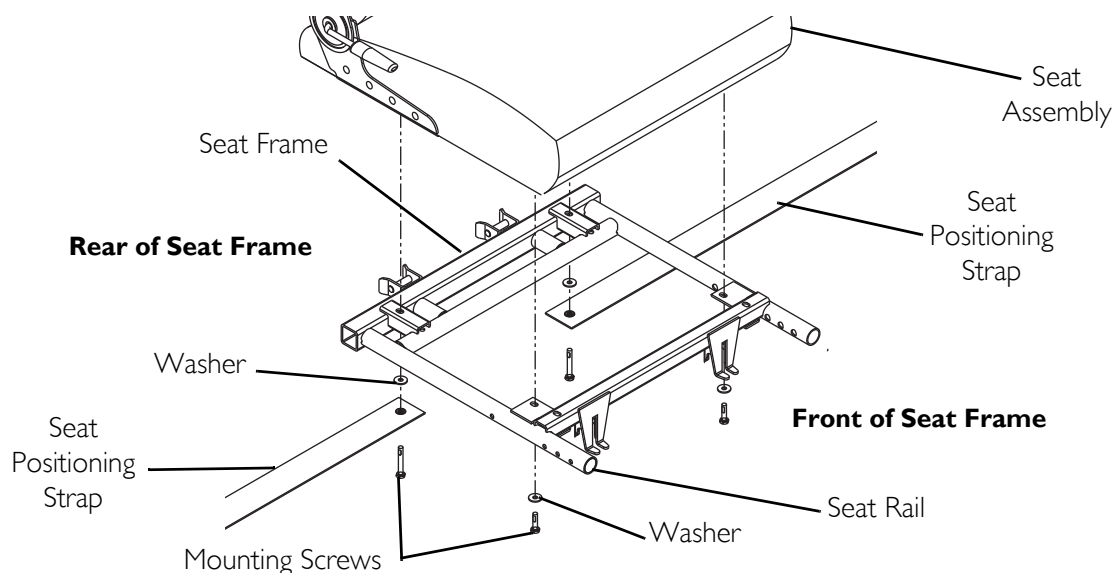

FIGURE 7.7 Replacing the Seat Positioning Strap
NOTE: For this procedure, refer to FIGURE 7.5 and FIGURE 7.7 on page 41.
4. Refer to FIGURE 7.7 to determine the correct mounting holes to achieve the desired seat position.
NOTE: For this procedure, refer to FIGURE 7.7 on page 41.